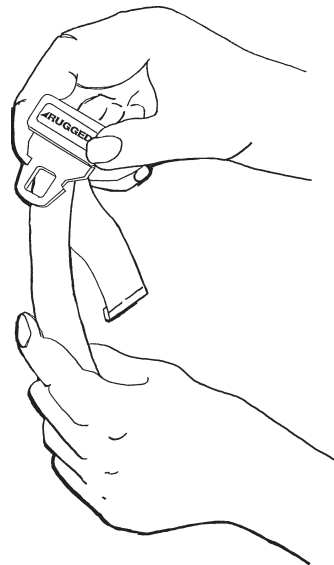

Figure 10 - Lengthening the Safety Restraint
- Grasp the buckle tang, turn it at an angle to the webbing, then pull it out as shown in Figure 10. A hemmed tab at the end of the webbing prevents the tang from coming off the strap.